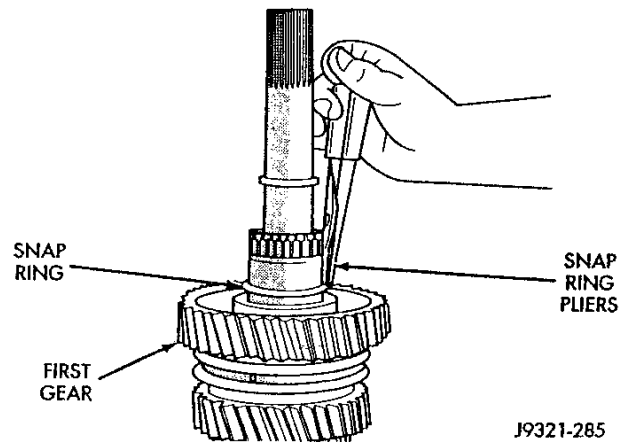

Fig. 21 First Gear Snap Ring Removal
(6) Remove first gear snap ring (Fig. 21).